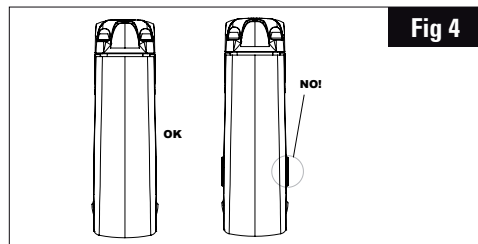

Fig 4
If after tightening at the maximal torque indicated, the buffers (5 & 10) laterally overshoot the stem's body (4) (Fig 4), you should then:
1. Completely loosen the double-threaded screw (9) up to the disconnection of the tightening buffers (5 & 10)
Before each use check the positioning of the tightening buffers (5 & 10). If they laterally overlap the stem's body (4), their tightening is no longer assured and the double-threaded screw should imperatively be retightened (9) (FIG 4).